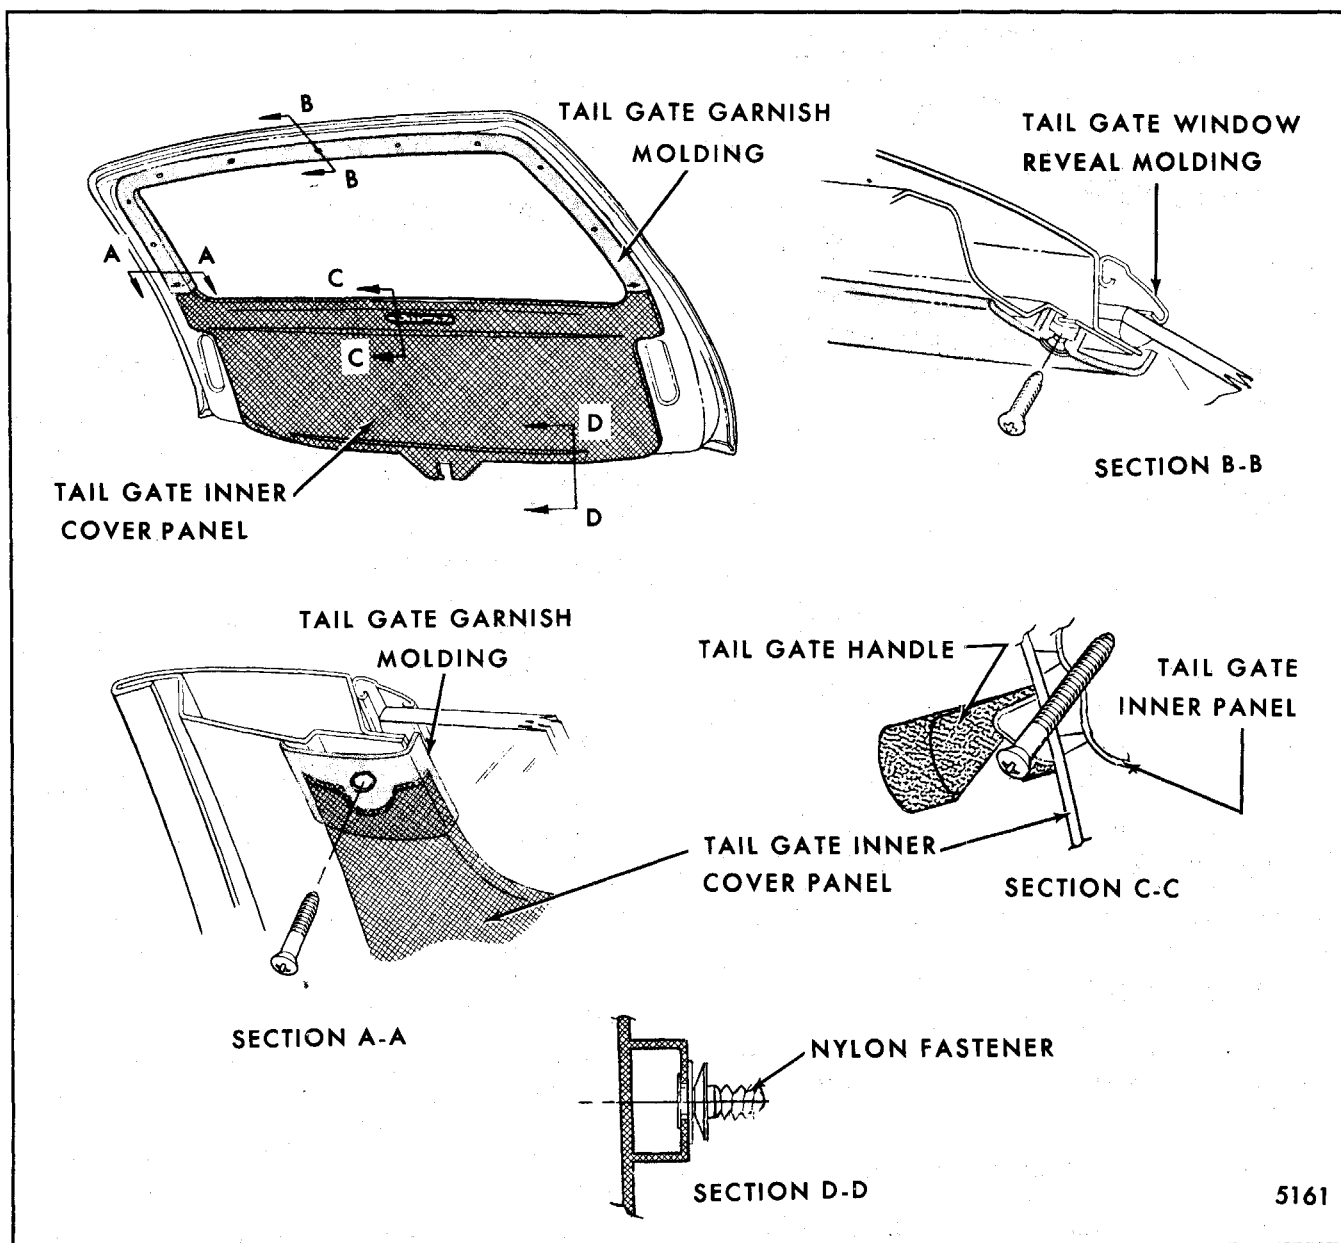

Fig. 7-101-Tailgate Inner Cover Panel and Tailgate Window Garnish Molding
A one piece plastic garnish molding is used around the tailgate window opening above the belt line (Fig. 7-101). It is secured to the tailgate inner panel with exposed screws. It is designed to conceal the tailgate window pinchweld and finish the area immediately adjacent to the glass.
The tailgate inner cover panel is used to conceal the lower tailgate window pinchweld flange and to finish the lower half of the tailgate inner panel. It is secured to the inner panel by a series of push-on fasteners and exposed screws. An inside pull handle is mounted at tailgate centerline just below the tailgate window opening (Fig. 7-101).
1. Remove screws securing inside pull handle to tailgate inner panel and remove handle (Section C-C, Fig. 7-101).
3. Using trim pad remover tool J-9886 or equivalent, disengage cover panel push-on fasteners from inner panel along bottom edge of cover panel (Section D-D, Fig. 7-101).
3. Remove two inner cover panel screws from lock assembly tabs (Fig. 7-101).